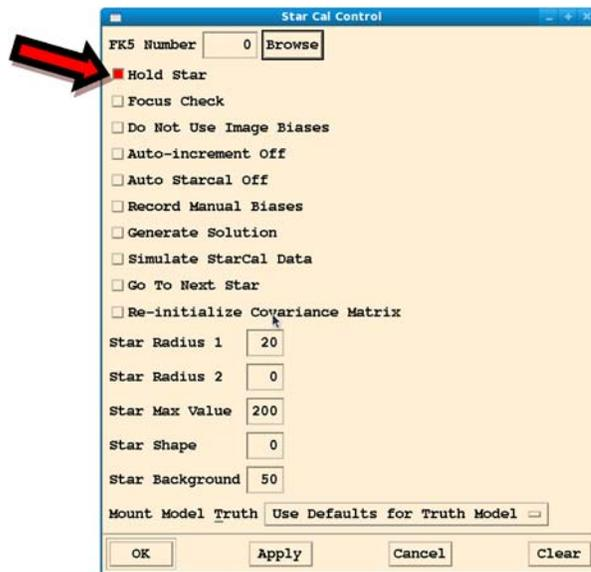

Figure 5-6: Star Cal control with Hold Star selected
2. Configure the Star Cal Control window – Go to **Control => Star Cal** control menu and select **Hold Star** (Figure 5-6). **DO NOT** select **Apply** yet.